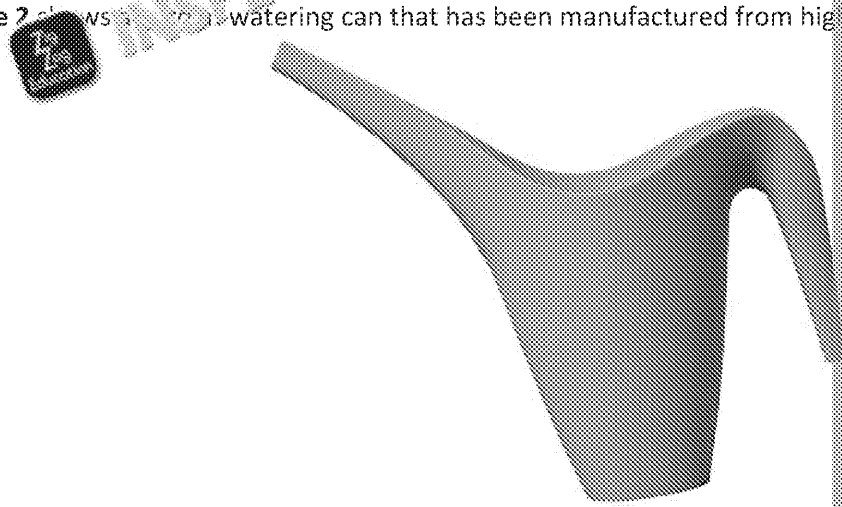

Figure 2
4.2. Figure 2 shows a garden watering can that has been manufactured from high density polyethylene (HDPE).